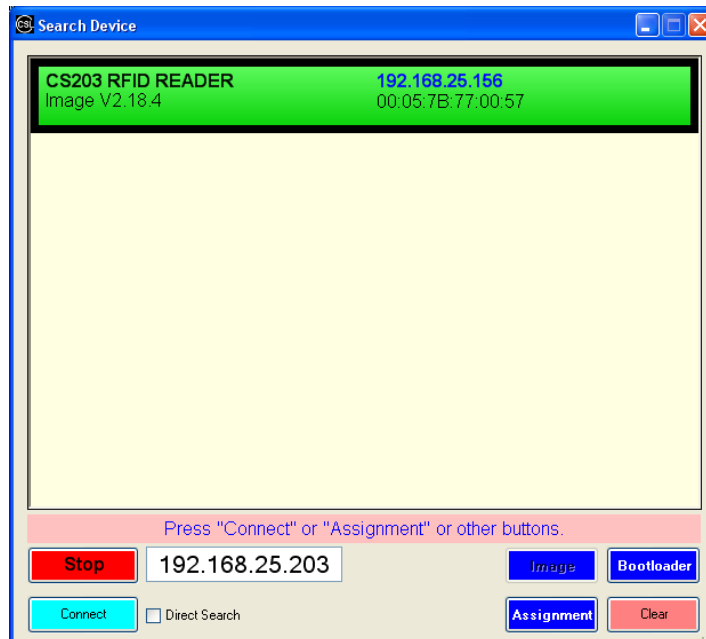

Fig. 5-5. Searching CS468
2. Available CS468 devices will be listed as shown in Fig. 5-5.